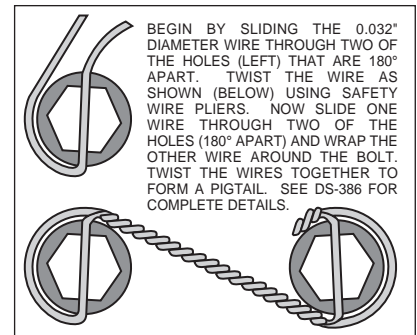
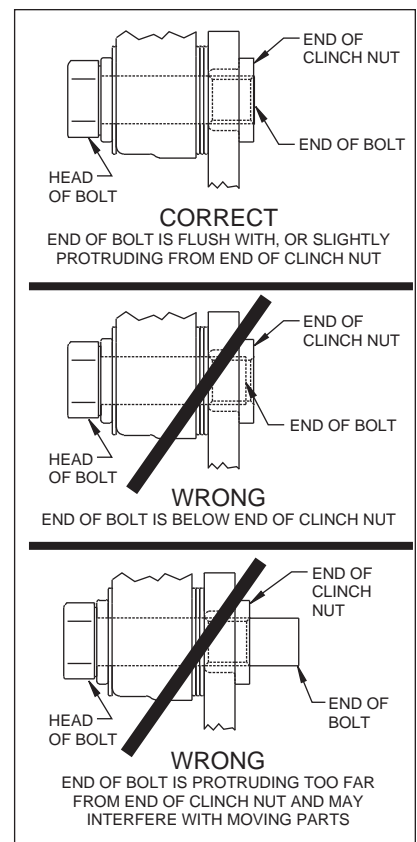

Figure 4. Safety Wire Diagram
Figure 5. Clinch Nut Engagement Diagram
- The rotor (3) has two sides. A flat side and an inset side. Bolt hat (2) to flat side of rotor (3) using bolts (5). Using an alternating sequence, apply red *Loctite*® 271 to the threads and torque bolts to 25 ft-lb. For an added measure of security, the bolts may be safety wired using standard 0.032 inch diameter stainless steel safety wire as shown in Figure 4. Please refer to Wilwood's data sheet DS-386 (available at www.wilwood.com/Pdf/DataSheets/ds386.pdf) for complete safety wire installation instructions.
- Align the correct hole pattern in the hat (2) with the stud pattern on the axle flange. **NOTE:** Some OEM and after market axles come with stud sizes larger than 0.50" diameter. Verify stud size and have a qualified machine shop drill the hats to the correct size. Slide the hat/rotor assembly (2 and 3) over the wheel studs and against the axle flange face.
- NOTE:** Please reference the caution statement at the beginning of the assembly instructions. Mount the caliper (6) over the rotor (3) and onto the caliper mounting bracket (1) using washers (7) and mounting bolts (8). View the rotor through the top opening of the caliper. The rotor should be aligned in the center of the caliper. If not, adjust the caliper by using 0.032 inch shims (9) by placing them between the caliper mounting bracket (1) and the caliper (6). Add as many shim washers (9) as necessary to achieve the correct alignment. **NOTE:** The end of the bolt must be flush with or slightly protruding from the head of the clinch nut. See Figure 5. Place spare shims (9) between washer and caliper mounting ear to achieve the proper mounting fastener configuration. Always use the same amount of shims on both the top and bottom caliper mounting bolts (8). Apply red *Loctite*® 271 to the mounting bolt threads (8), torque to 40 ft-lb. Caliper mount bolts may be safety wired for additional security.
- Position the Wilwood disc brake pads (10) into the caliper (6) and fasten with cotter pin (4). Steel backing plate side of brake pad should face the caliper pistons.